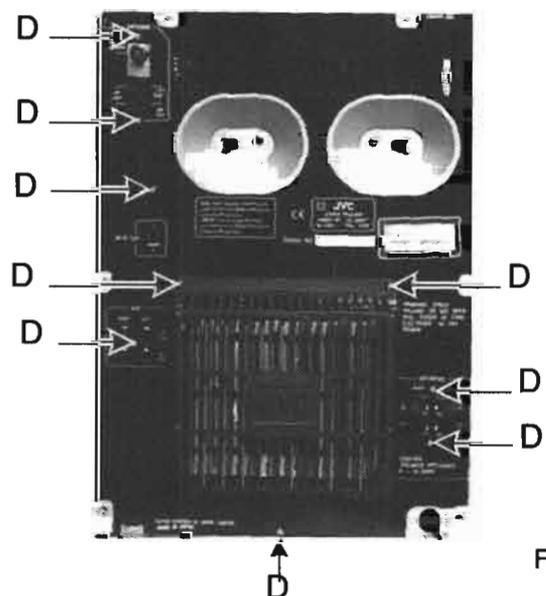

Fig. 5
1. Remove 9 screws(D) fastening rear side and remove the heat sink cover (Fig. 5).
2. Remove 3 screws(D) holding the heat sink.